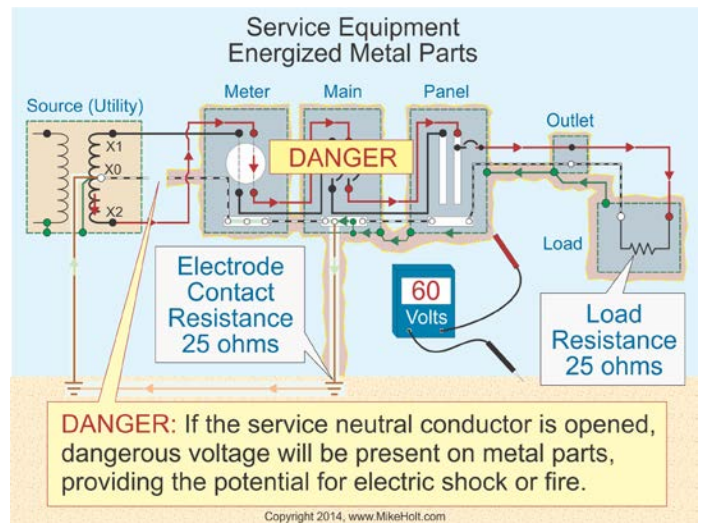

Figure 250-55
- If the neutral conductor is opened, dangerous voltage will be present on metal parts under normal conditions, providing the potential for electric shock. If the earth's ground resistance is 25 ohms and the load's resistance is 25 ohms, the voltage drop across each of these resistors will be half of the voltage source. Since the neutral is connected to the service disconnect, all metal parts will be elevated to 60V above the earth's potential for a 120/240V system. Figure 250-55